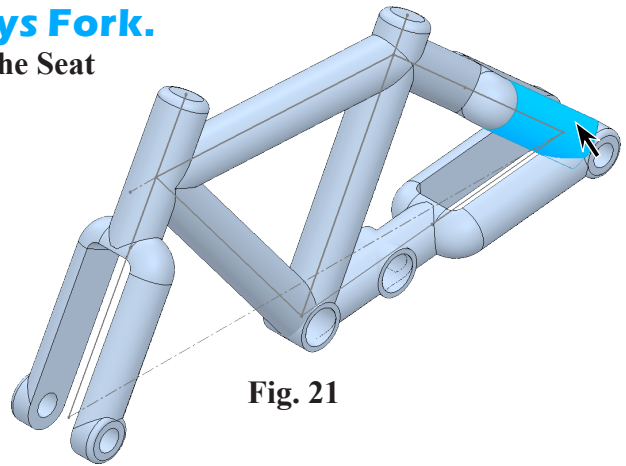

Fig. 21
Step 1. In the graphics area click the Fork<3> at the Seat Stay to select, Fig. 21.